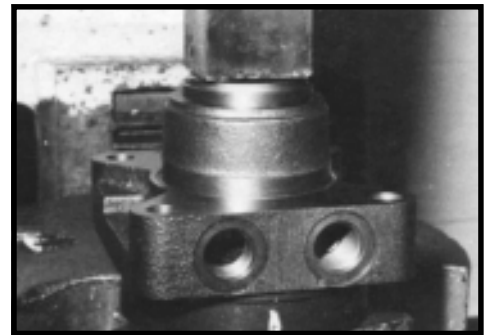

Figure 41
The Large Frame Series MB, ME & MP Torqmotor™ dirt and water seal (20) must be pressed in with the lip facing out and until the seal is flush to .020 inches (.51 mm) below the end of housing. SEE FIGURE 41.